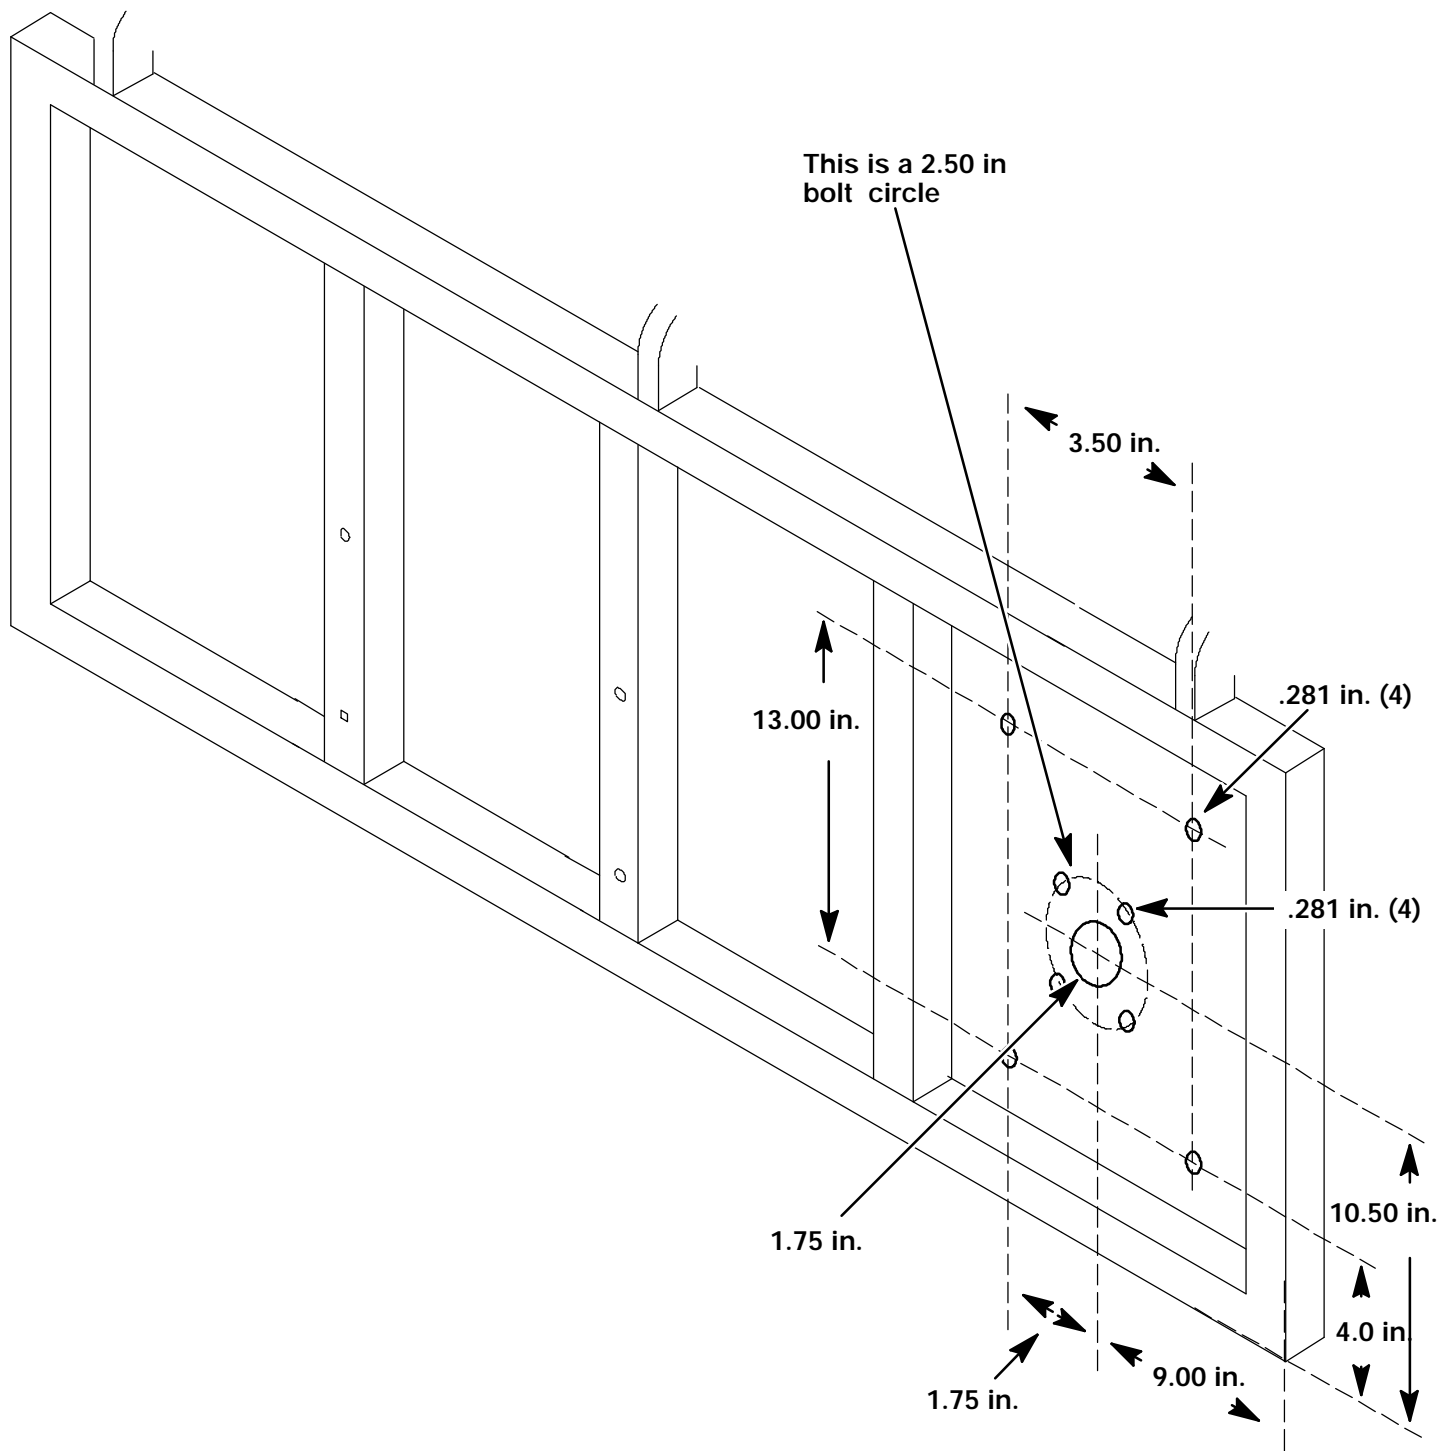

FIG. 1 - Dump Door Hole Locations
(Refer to FIG. 1, 2 and 3)
1. Drill eight .281 in. holes as shown in Fig. 1. Use the adaptor (16) as a template to locate the four holes on the 2.50 in. bolt circle. *(Refer to FIG. 1)*
2. Use a hole saw to cut a 1.75 in. hole in the center of the 2.50 in. bolt circle. *(Refer to FIG. 1)*